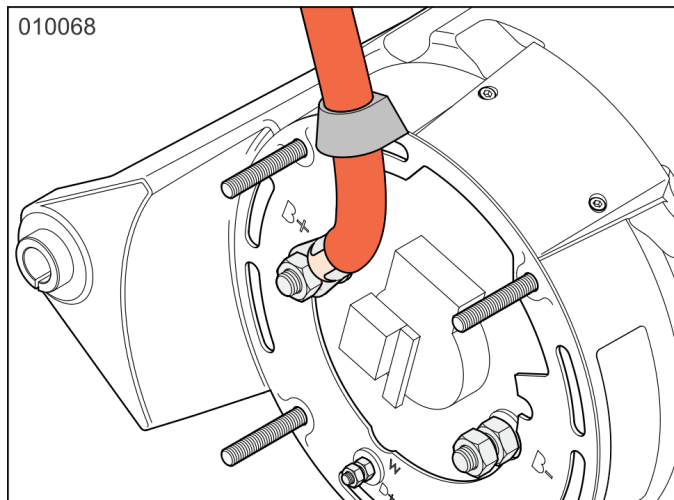

Figure 6
- 9) Slacken the terminal nut of the red positive cables. Re-route the positive cables so that they will pass afterwards through the left hole of the protective cover. Re-tighten the terminal nut of the positive cables to a torque of 6.6 to 9.6 ft.lbf (9 to 13 Nm) (Figure 6 shows upper alternator).